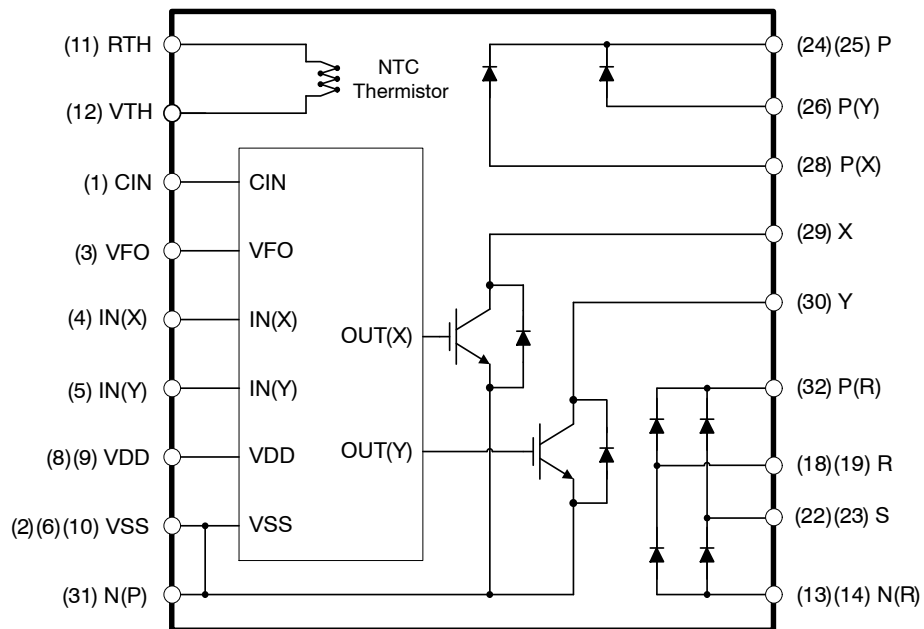

Figure 2. Internal Block Diagram
- 650 V – 50 A 2-Phase Interleaved PFC for Single-phase AC-DC Power Conversion (refer to Figure 2)